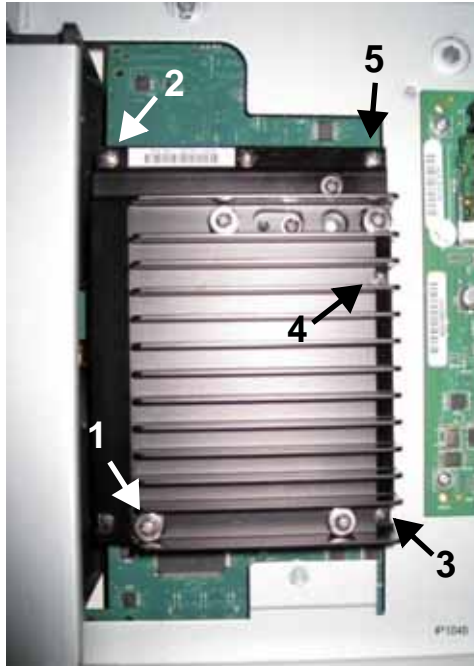

Figure 52: Removing the APC-MXe Retaining Screws
9. Tighten the retaining screws in the following order, referring to Figure 52 for screw numbers: